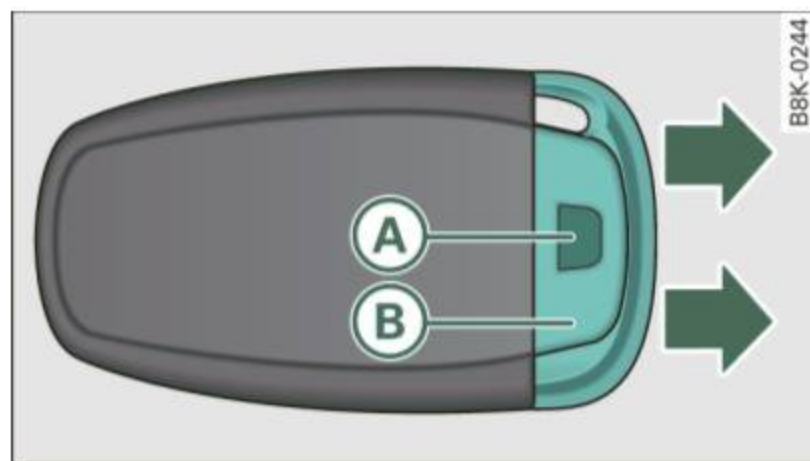

Fig. 35 Remote master key: Removing the mechanical key
- Press the release button **A** ⇒ fig. 35.